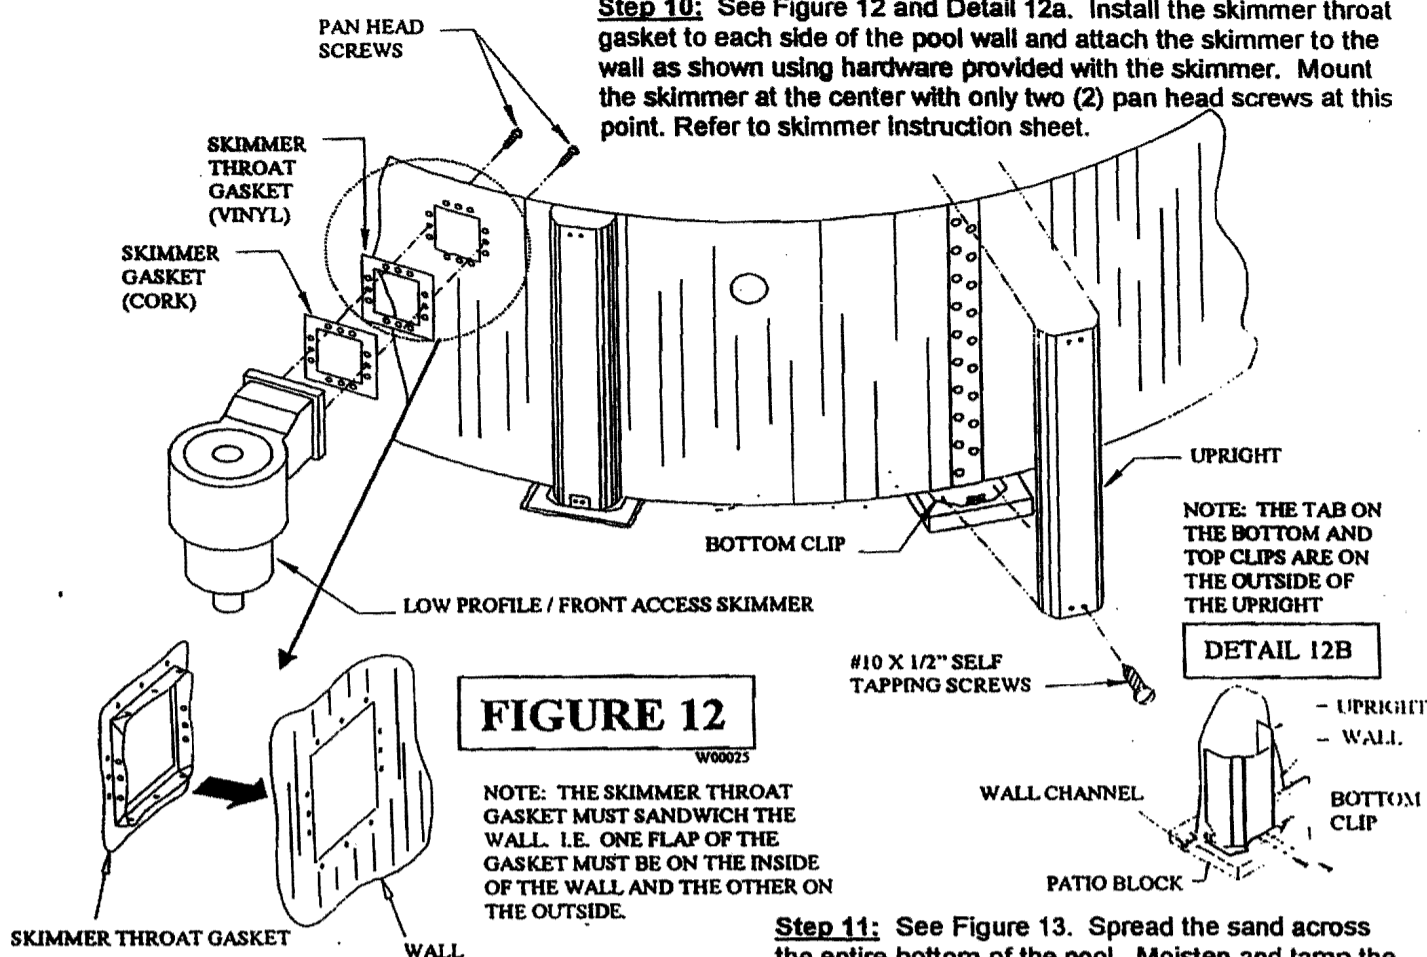

FIGURE 12
Step 9: See Figure 12 and detail 12b. Attach the uprights to the bottom clips as shown.
Step 10: See Figure 12 and Detail 12a. Install the skimmer throat gasket to each side of the pool wall and attach the skimmer to the wall as shown using hardware provided with the skimmer. Mount the skimmer at the center with only two (2) pan head screws at this point. Refer to skimmer instruction sheet.